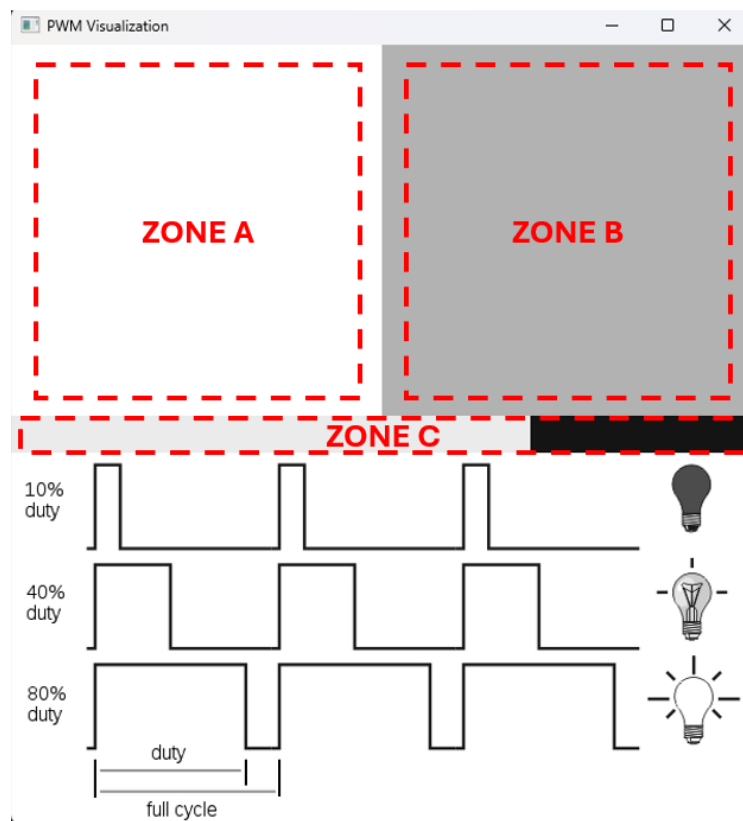

Figure 1. PWM Visualization
3. A window will pop up (PWM Visualization, shown in Figure 1) which lets you interactively observe the mean value of a modulated signal, each part of the window is described below,